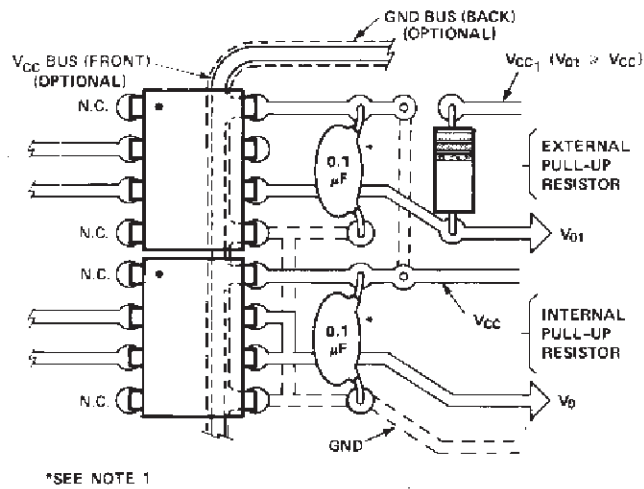

Figure 19. Recommended printed circuit board layout.
- By-passing the power supply line is required with a  $0.1 \mu\text{F}$  ceramic disc capacitor adjacent to each optocoupler as illustrated in Figure 19. The power supply bus for the optocoupler(s) should be separate from the bus for any active loads, otherwise a larger value of bypass capacitor (up to  $0.5 \mu\text{F}$ ) may be needed to suppress regenerative feedback via the power supply.
A recommended layout for use with an internal 1000  $\Omega$  resistor or an external pull-up resistor and required  $V_{CC}$  bypass capacitor is given in Figure 19.  $V_{CC1}$  is used with an external pull-up resistor for output voltage levels ( $V_O$ ) greater than or equal to 5 V. As illustrated in Figure 19, an optional  $V_{CC}$  and GND trace can be located between the input and the output leads of the HCPL-2300/HCPL-0300 to provide additional noise immunity at the compromise of insulation capability ( $V_{I-O}$ ).